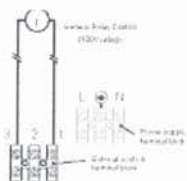

Figure 12.9
- Connect the dry contact switch of the relay panel to the 120 VAC control terminal block (Fig 12.9).
- Connect the dry contact switch to terminals 1 and 3 shown in Fig. 12.9.